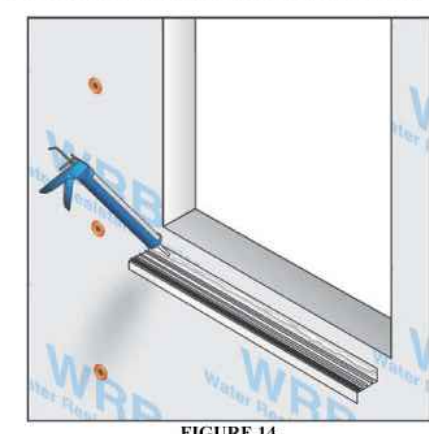

FIGURE 14
7.3.4 If a rigid or semi-rigid sill pan is used, apply a continuous bead of sealant to the outward side of the upturned leg of the pan where it will integrate with the interior side of the window and form an air/water seal (Figure 14).
**7.5.4** If applied, an exterior bead of sealant shall be discontinuous, leaving two 50 mm (2 in) voids within 100 mm (4 in) of each jamb (see Figure 14). Any alternative to the discontinuity in the bead of sealant at the exterior sill area shall be approved by the fenestration product manufacturer.